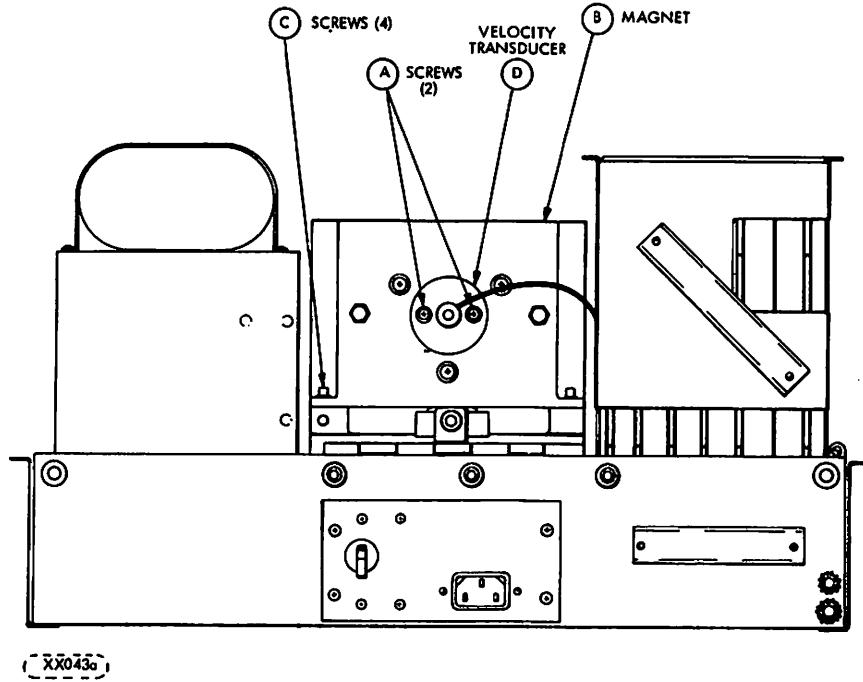

FIGURE 6-18. VELOCITY TRANSDUCER AND ACTUATOR MAGNET REMOVAL
Refer to Figure 6-18 and 6-19 for the following removal and replacement procedure.
For the following procedure refer to Figures 6-18 and 6-19.
- c. Remove the two screws (A) which secure the Velocity Transducer Housing (D) to the voice coil magnet (Figure 6-18).
- d. Unscrew the Velocity Transducer Magnet Core (F) from the rear of the carriage using a 3/16 inch open end wrench.
5. Disconnect voice coil leadwire connector (refer to Figure 6-18).